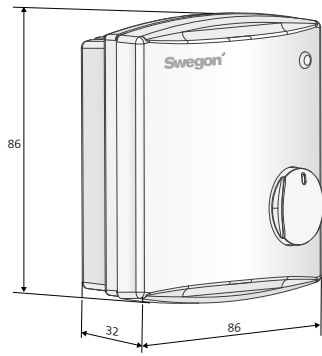

Figure 4. The RTC has brackets for mounting on a Ø 60 mm appliance box.
- RTCT 1, duct temperature sensor for installation in an extract air duct. See figure 4, page 4.